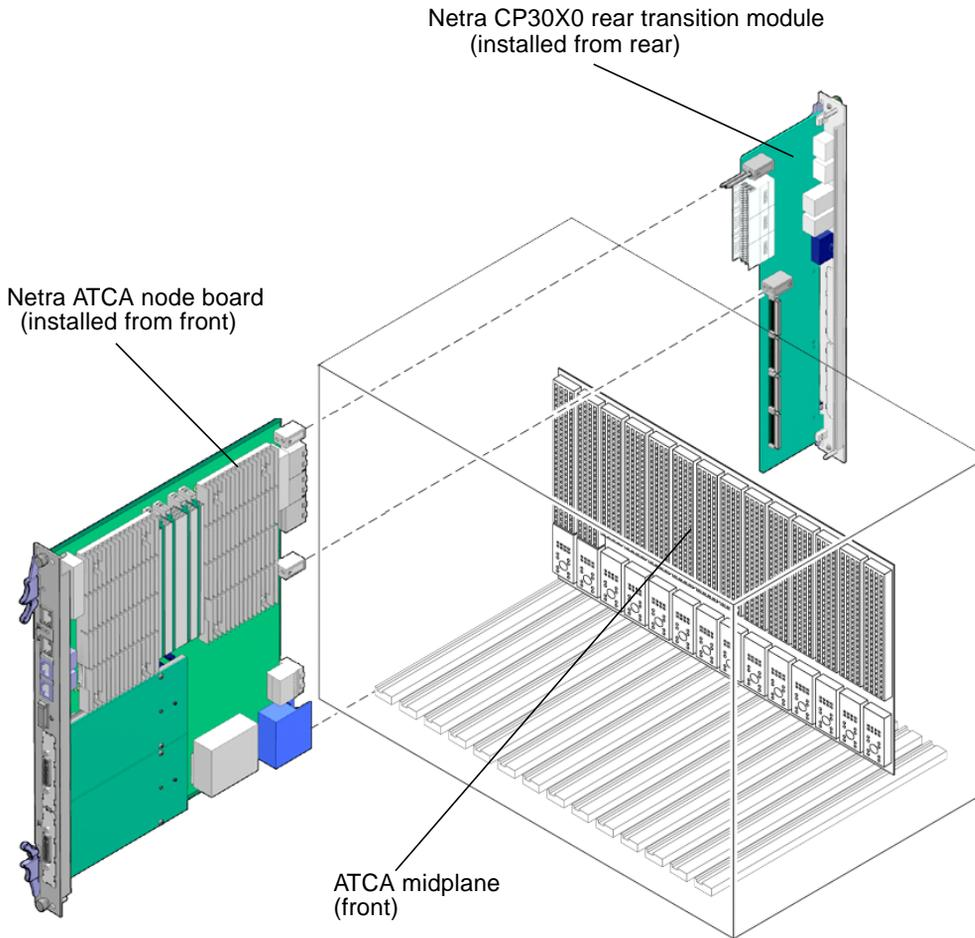

FIGURE 2-1 Installing the Node Board and Rear Transition Module Into the ATCA Shelf
The Netra CP30X0 rear transition module can be installed into an ATCA shelf (chassis) with a midplane made for front and rear board installations (FIGURE 2-1). The module must be installed in the slot directly behind the Netra ATCA node board. These back-to-back slots have common pins to enable passing of signals.
10. **Install the node board into the front of the shelf (FIGURE 2-1) and push the board toward the midplane. Ensure that it is seated properly and that the connectors make good contact with the rear transition module.**